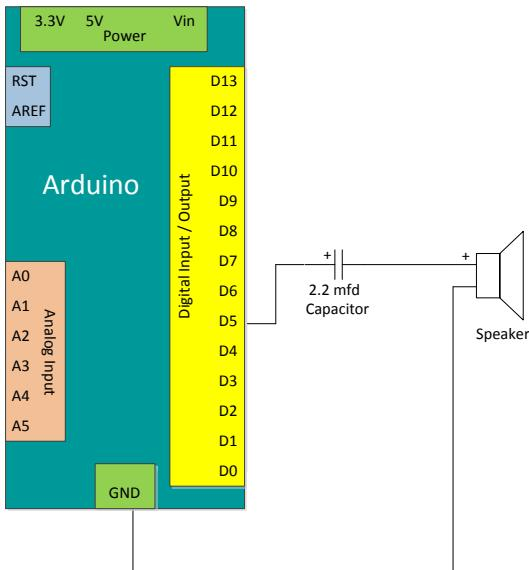

Figure 10-4. Schematic diagram of connection between Arduino™ and speaker
1. Connect a speaker to the Arduino™ as shown in Figure 10-4.